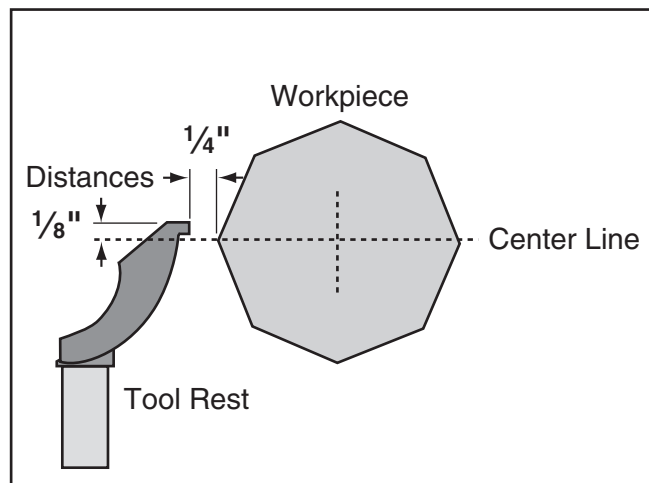

Figure 14. Tool rest position relative to workpiece.
2. Position the tool rest approximately $\frac{1}{4}$ " away from the workpiece and approximately $\frac{1}{8}$ " above the workpiece center line (**Figure 14**).